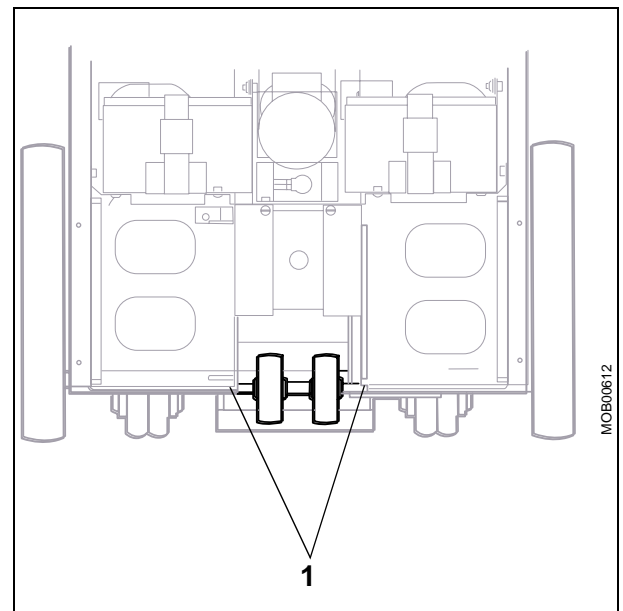

Fig. 24
- Remove the locking rings (pos. 1 / Fig. 24).